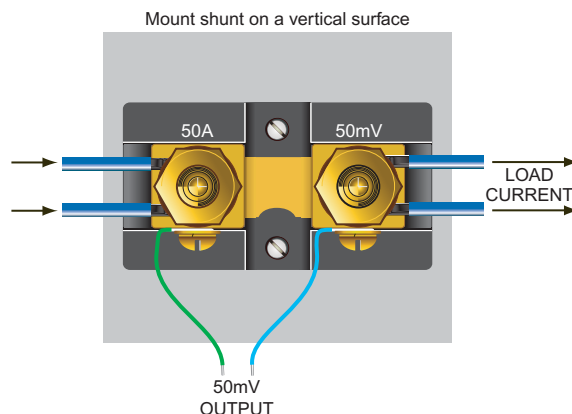

Figure 1. Typical installation
- 2. Mounting Considerations:** All shunts should be mounted with their resistance blades in a vertical position to allow for natural convection cooling (see Figure 1). Forced-air cooling must be provided when vertical mounting is impractical, or in installations where the shunt is installed in a confined location. The shunt's manganin blades must never be allowed to exceed  $+125^\circ\text{C}$ ; doing so will cause permanent damage to the shunt.
Whenever practical, all shunts should be connected in the grounded side (normally the 'chassis') of the dc supply. However, these shunts must be connected in the grounded side of the circuit when the dc supply exceeds 750 volts (the rated limit for the shunt's phenolic insulating base). When more than one wire is to be connected to each end of a shunt, the wires must be evenly distributed between both terminals (see Figure 1).